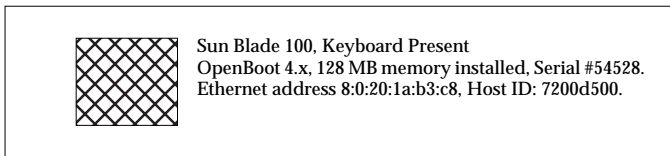

Figure 1-1 Banner Screen Example
Before you start to install additional DIMMs, reboot your system and check the banner screen on your monitor to verify the amount of memory already installed in your system. The banner screen is displayed at the top of your monitor screen before the system begins to reboot (Figure 1-1).
- 6. The banner screen is displayed on the monitor a few seconds after you power on the system (Figure 1-1 on page 1).**